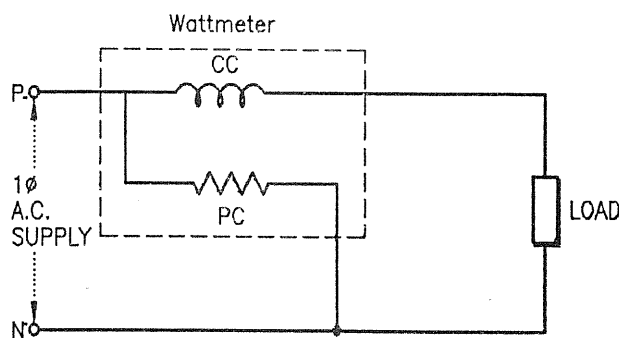

FIG. 2.86 : CONNECTIONS OF WATTMETER
- To measure power in single phase AC circuit, the connections of wattmeter are made as shown in Fig. 2.86.